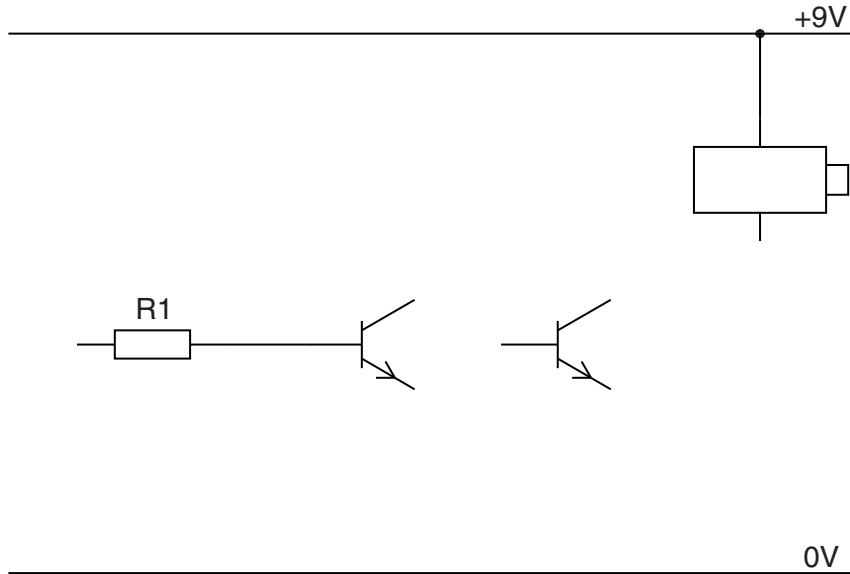

Fig. 8 [3]
- (i) Complete the transistor connections in Fig. 8 to make a Darlington pair.
Draw the protective diode on the circuit in Fig. 8. [2]